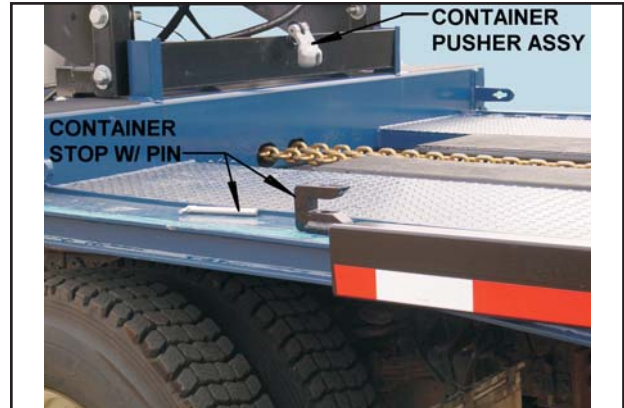

Figure 3-6 Container Pusher Assembly and Stops
- h. Install provided container stops on the trailer where front of container is going to be pulled up to (See Figure 3-6).
a. Connect the container pusher angle in front of the container into the gearbox chain (**See Figure 3-6**).